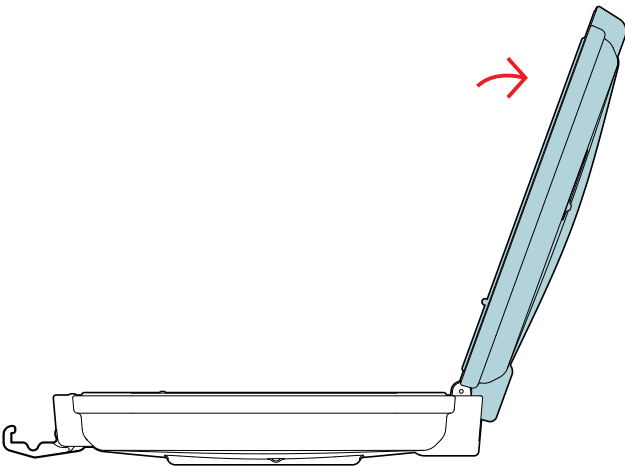

Figure 4: Open the lid
1. **Open the lid** (Figure 4). It may help to place the base on a flat surface.